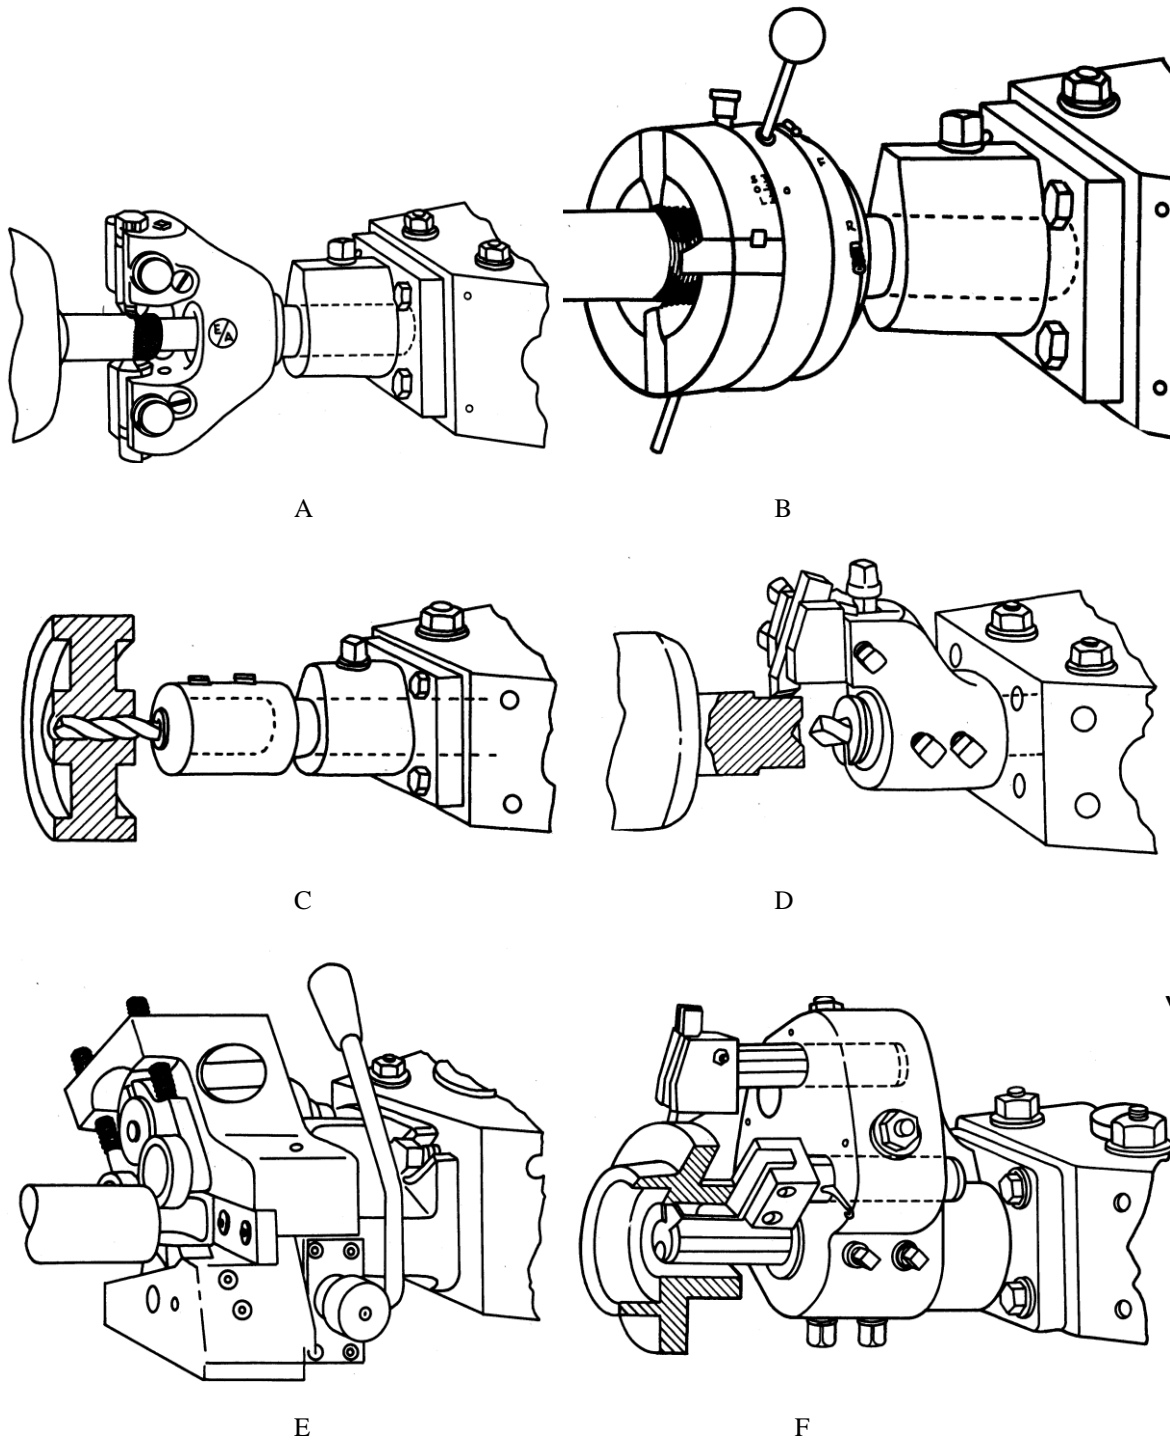

Fig.7-13. Turret toolholders.
7.15.5. Identify each illustrated turret toolholder (Fig.7-13) by matching it with its name.